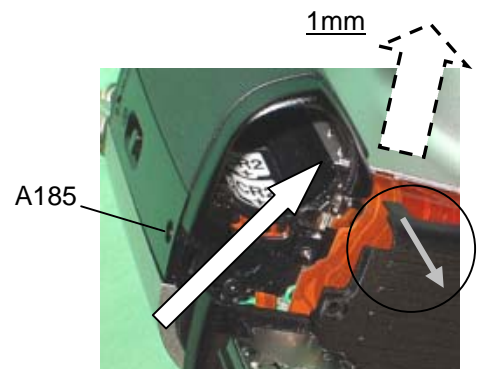

Fig.2
2) A185 (Refer to Fig.2)
3) Open the battery cover, and lift the front cover up 1mm forward as shown in Fig.2.